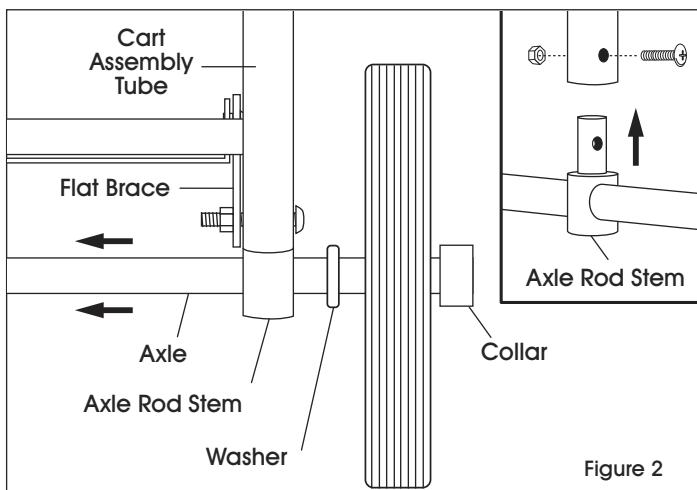

Figure 2
3. Insert axle rod stems into cart assembly tubes. (See Figure 2 inset)